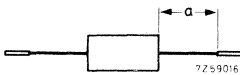

Fig. 2 Mounted to solder tags.
2. Thermal resistance from junction to ambient when mounted to solder tags at a lead length $a = 10$ mm; Fig. 2